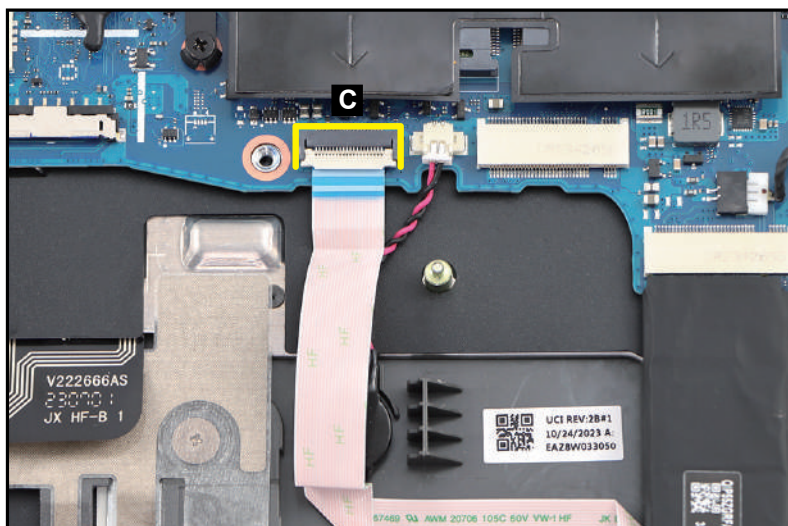

Figure 3-135. Replacing the RTC Battery
3. Connect the card reader board FFC to the mainboard connector (C) (Figure 3-135).